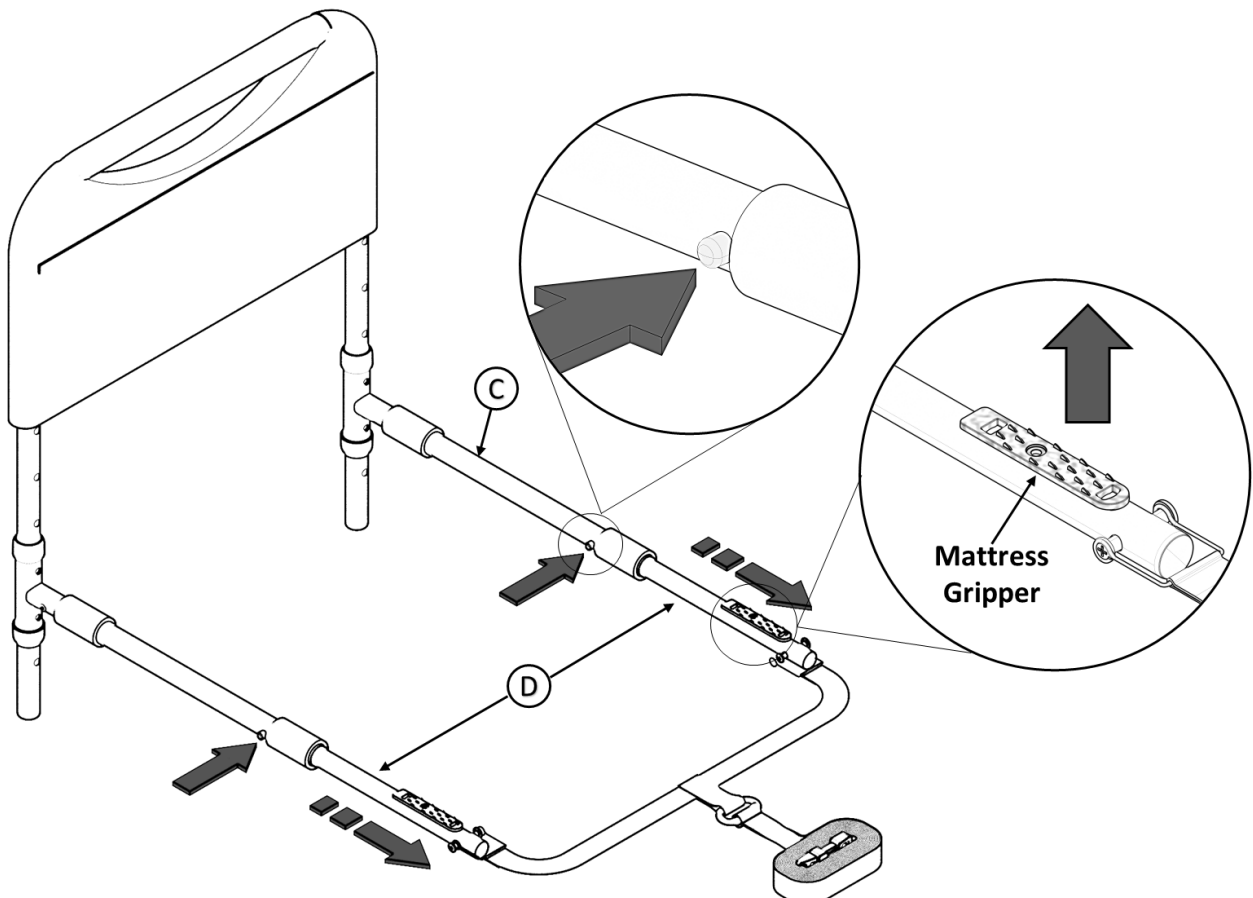

FIGURE 2
2. Slide Part D until pin engages with Part C, making sure the **Mattress Gripper** is facing up as shown in Figure 2.